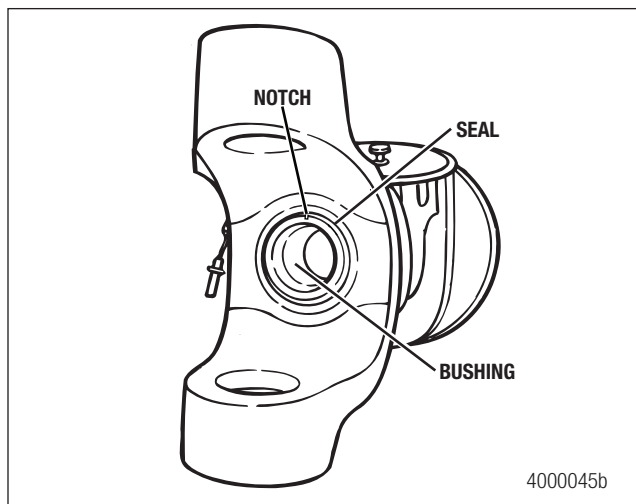

Figure 7.1
2. If required, install a new oil seal into the axle housing. The seal must be installed with the notch at the top. Figure 7.1. Use a correct size sleeve or driver. Refer to Section 13 Special Tools on page 81 for seal driver tool specifications.